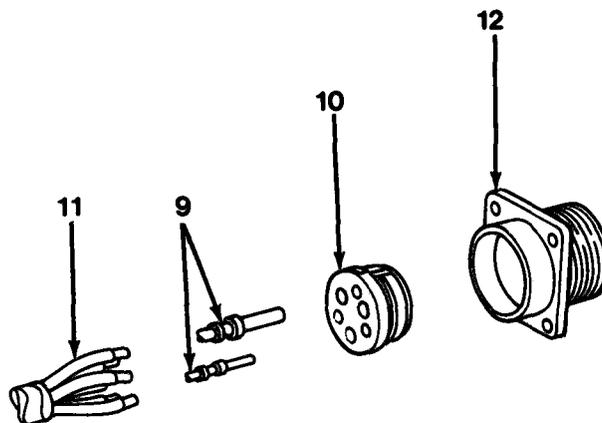

Figure 10-4
2. Push pin contacts (9) out through rear of insert (10, Figure 10-4) with pin extractor.
3. Unsolder cable leads (11) from solder wells on pin contacts (9).
4. Slide insert (10) out through rear of shell (12).